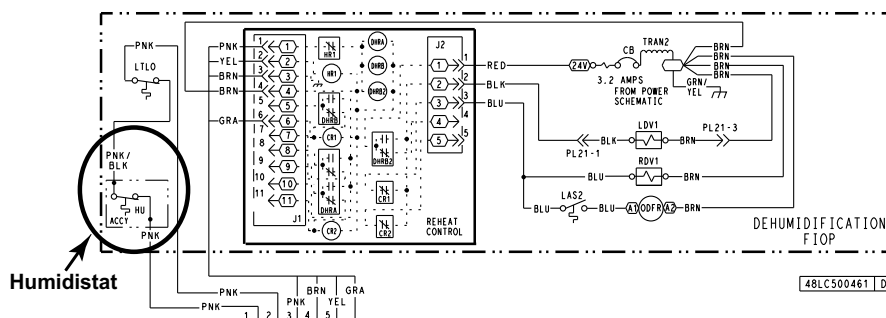

Fig. 44 - Typical Humidi-MiZer Adaptive Dehumidification System Humidistat Wiring
3. Use wire nuts to connect humidistat cable to the leads in the low-voltage wiring (as shown in Fig. 44), connecting PNK to PNK and PNK/BLK to PNK/BLK.